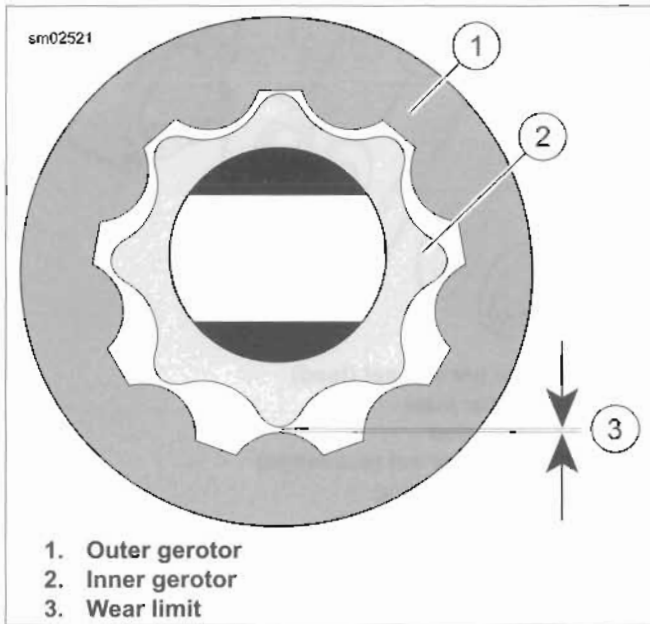

Figure 3-119. Measure Gerotor Sets for Wear
6. See Figure 3-119. Check gerotor wear.